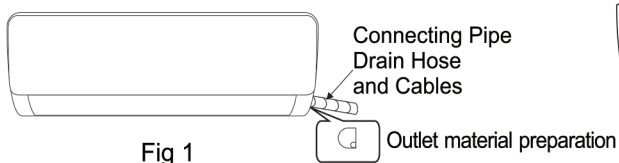

Fig 1
- **Sideways** from the left or right (Fig 1)